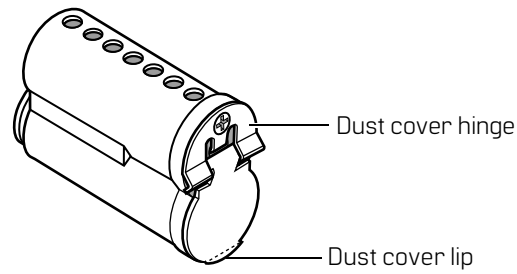

Figure 3.7 Dust cover assembly in position
2. Place the dust cover over the key hole in the core so that the lip faces away from the core. Place the dust cover hinge on the face of the core with the prongs covering the dust cover, as shown in Figure 3.7. Install the screw.